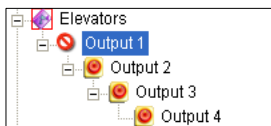
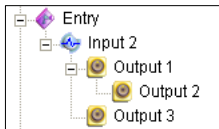
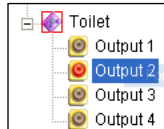

Figure 4-46
Figure 4-47
Figure 4-48
- In the Advanced I/O List, considering cascade triggers, you can only manually force the output at the top level, e.g. Figure 4-46. Other outputs at sub levels cannot be forced manually, e.g. Figure 4-47. However, if the output is not in a cascading hierarchy, you can definitely force it manually, e.g. Figure 4-48.